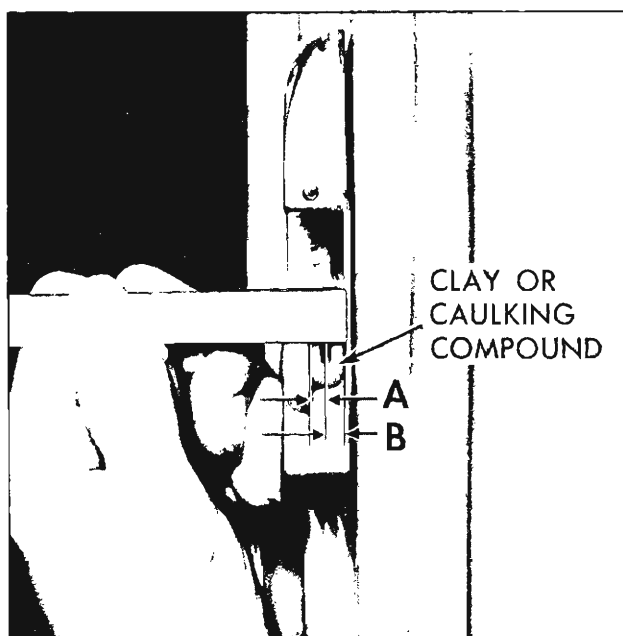

Fig. 92—Tail Gate Lock Striker Engagement Check
- b. To determine if tail gate lock striker emergency spacers are required, apply modeling clay or body caulking compound in the lock striker notch where the lock extension engages and then close the tail gate to form a measurable impression in the clay or caulking compound, as shown in Figure 92.